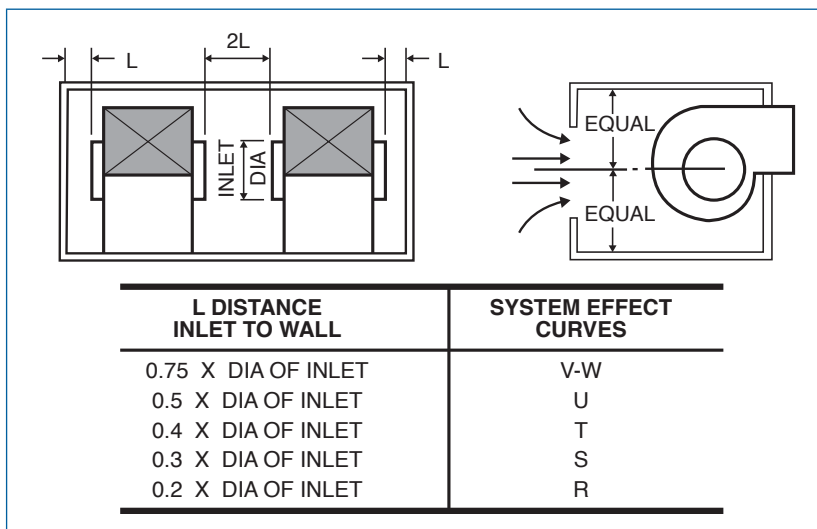

Figure 6-50. System Effect Curves for Fans Located in Plenums and Cabinet Enclosures and for Various Wall to Inlet Dimensions
Fans with plenums and cabinets or next to walls should be located so that air may flow unobstructed into the inlets. Fan performance is reduced if the space between the fan inlet and the enclosure is too restrictive. It is common practice to allow at least one-half impeller diameter between an enclosure wall and the fan inlet. The inlets of multiple, double-width centrifugal fans located in a common enclosure should be at least one impeller diameter apart if optimum performance is to be expected. Figure 6-50 illustrates fans located in an enclosure and lists the System Effect Curve for restricted inlets.
2) On the fan suction side, using Figure 6-50, System Effect Curve "S" is obtained:
2) On the fan suction side, using Figure 6-50, System Effect Curve "S" is obtained.